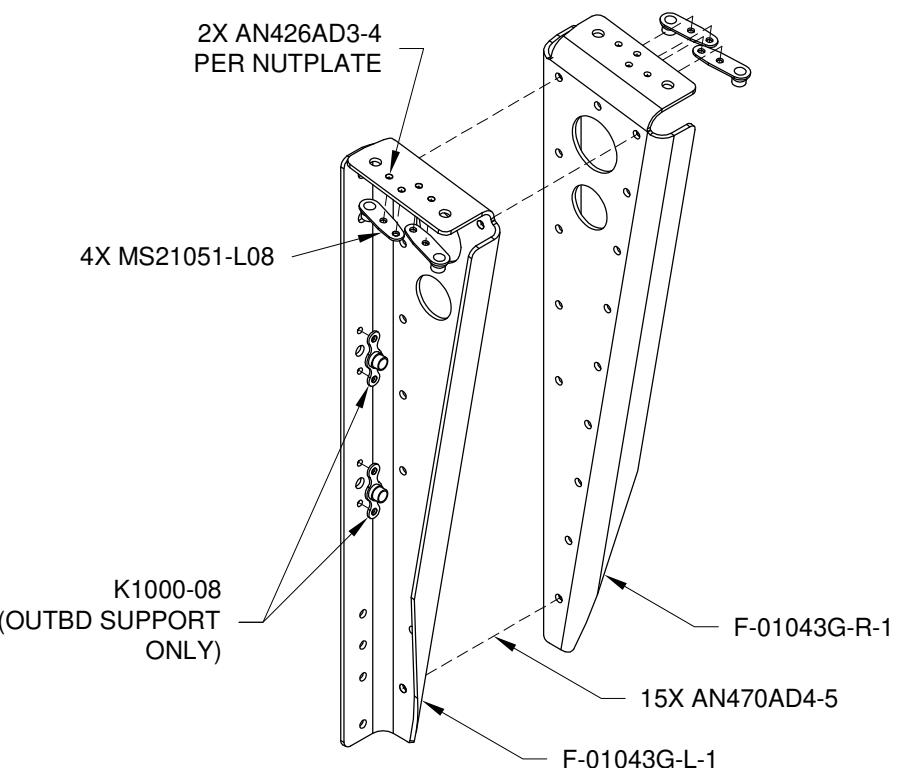

FIGURE 4: FWD SEAT RAIL SUPPORT
Step 4: For the nutplates shown in Figure 4, machine countersink the nutplate attach holes in the two left and two right F-01043G-L-1 & -R-1 Fwd Seat Rail Supports for the head of an AN426AD3 rivet.
Step 6: Rivet the F-01043G-L-1 & -R-1 Fwd Seat Rail Supports together as shown on Page 28-2, Figure 4 to create the Outbd Fwd Seat Rail Support - Left. Repeat this step to create the Outbd Fwd Seat Rail Support - Right.